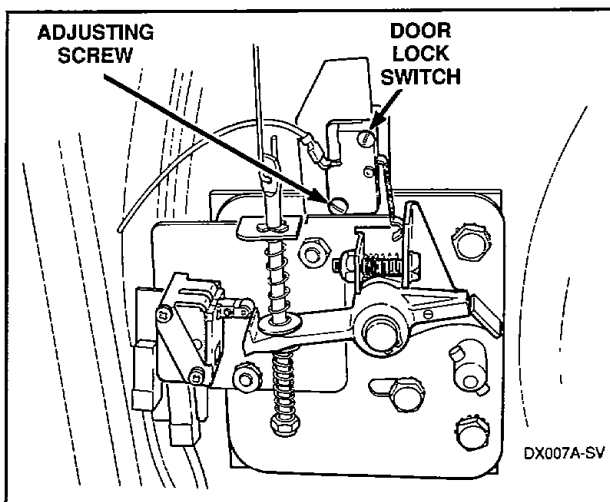

Figure 27
- f. Loosen 11/32" nuts holding solenoid and mounting bracket to back side of front channel, *Figure 27*.